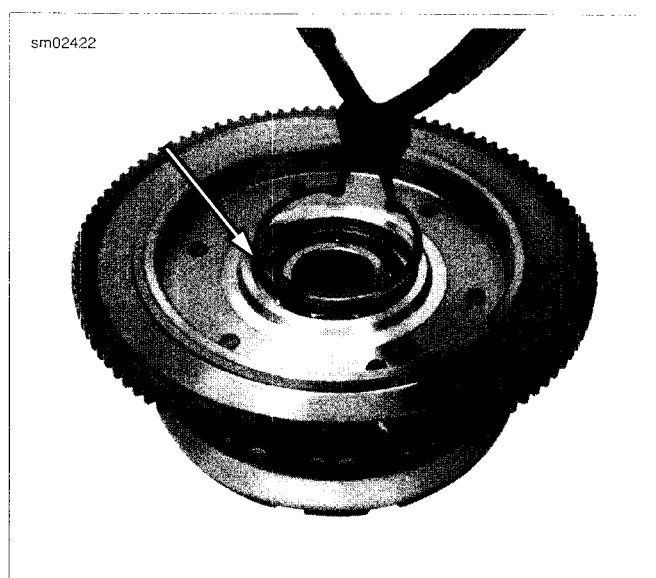

Figure 5-34. Install Clutch Shell Retaining Ring with Flat Side Against Bearing
6. See Figure 5-34. With the transmission side up, remove retaining ring from groove in clutch shell bore.
2. See Figure 5-34. Install retaining ring in groove of clutch shell bore so that flat side of retaining ring is towards bearing.